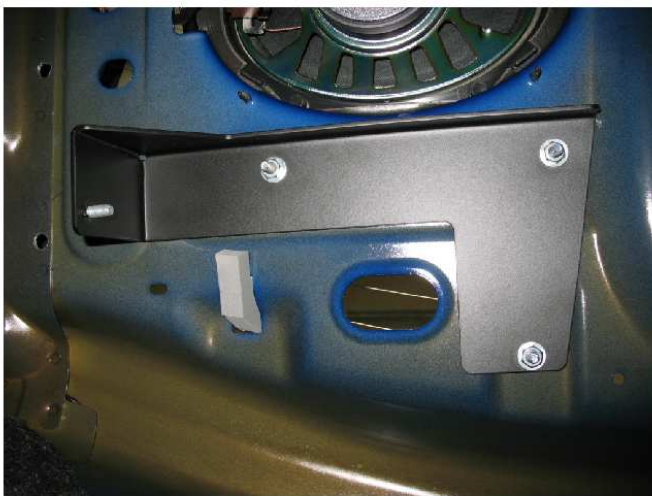

Fig 3 - Upper Plate Mounting
7. From inside the trunk, screw the Lower Brackets onto the bolts from the Upper Plates using the provided flat washers and nylock nuts (Fig. 3). Drivers side shown.